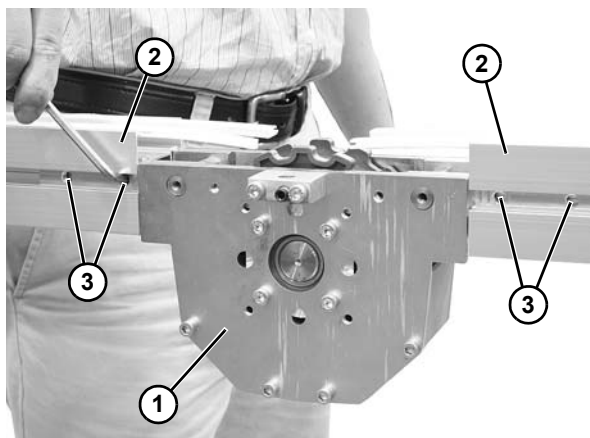

Figure 66
1. Install top running drive assembly (**Figure 66, item 1**) clamp plates into conveyor frame sections (**Figure 66, item 2**) by lining up clamp plates with slots in conveyor frame.
2. Secure with four set screws (**Figure 66, item 3**) on both sides of conveyor. Tighten all set screws 1/4 turn past contact with frame.